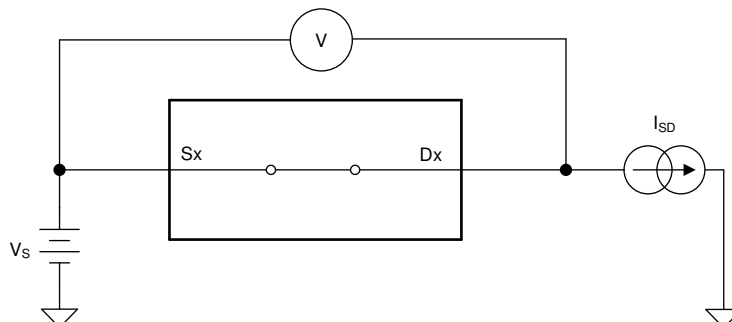

Figure 6-1. On-Resistance Measurement Setup
The on-resistance of a device is the ohmic resistance between the source (Sx) and drain (Dx) pins of the device. The on-resistance varies with input voltage and supply voltage. The symbol  $R_{ON}$  is used to denote on-resistance. The measurement setup used to measure  $R_{ON}$  is shown in Figure 6-1. Voltage (V) and current ( $I_{SD}$ ) are measured using this setup, and  $R_{ON}$  is computed as shown below with  $R_{ON} = V / I_{SD}$ :